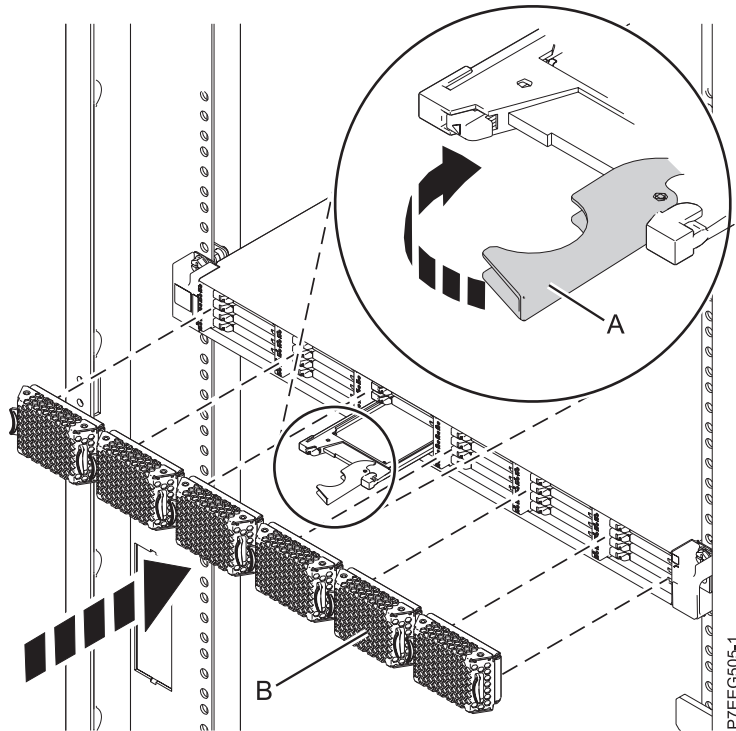

Figure 18. Installing a solid-state drive in the 5888 PCIe storage enclosure
1. With the handle in the unlocked position, align the solid-state drive with the guide rails in the enclosure. See Figure 18 on page 31,
3. Rotate the handle (A) to the locked position, as shown in Figure 18 on page 31.
4. Install the bezel (B).